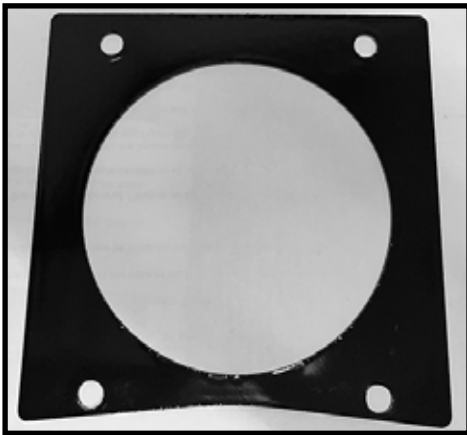

Figure 44: Curvature of end cover plate.
6. Ensure that the curved edges of the end covers are placed against the rear plate (Figure 44).